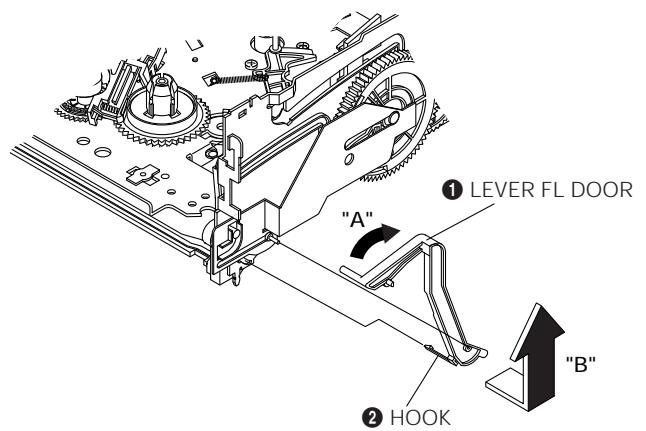

Fig. 1-5 Lever FL Door Removal
- 1) Remove the Lever FL Door. (Refer to Fig. 1-5)
- 2) Pull the Holder FL Cassette Ass'y ① to the eject position.
- 3) Pull the Holder FL Cassette Ass'y ① as grasping the Holder FL Cassette Ass'y ① and Lever FL Cassette-R ② in the same time to release hooking from Main Base until the Boss [A], [B] of Holder FL Cassette Ass'y ① is taken out from the Rail [C], [D].
- 4) Lift the Holder FL Cassette Ass'y ① in the direction of arrow "B" in this time, you have to grasp the Lever FL Cassette-R ② continuously until the Holder FL Cassette Ass'y ① is taken out completely.